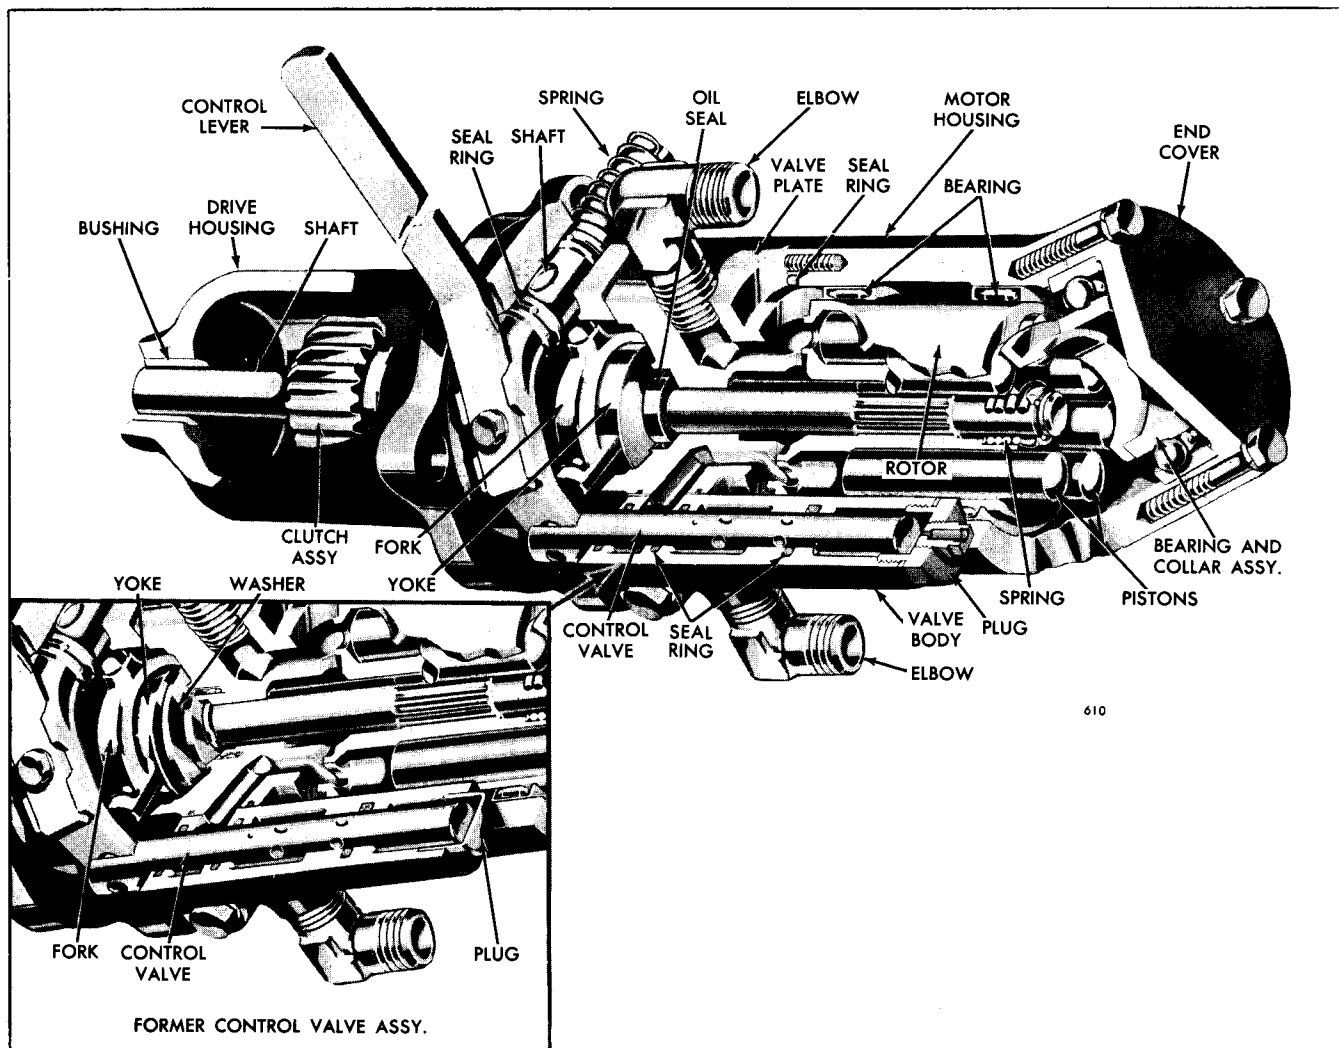

Fig. 4 - Cutaway View of Hydrostarter
With the engine controls set for start (throttle at least half-open), push the control lever (Fig. 4) to
The Hydrostarter (starting) motor is mounted on the flywheel housing in the same manner as a conventional starting motor. This starting motor has an inherently high rate of acceleration; therefore, the engine is cranked faster than is possible with other starting systems. Right and left-hand starters are achieved by assembling the motor housing (Fig. 4) to the valve plate in one of two positions 180° apart and by changing the drive clutch assembly. The drive housing can be adjusted in 12 different positions to accommodate various flywheel housing configurations.
valve plate and motor housing prior to disassembly to ensure their correct reassembly. Refer to Figs. 4 and 6 and proceed as follows:
8. On the Hydrostarter motors equipped with the former control valve assembly, shown in the inset in Fig. 4, remove the drive shaft oil seal washer from the starter shaft.
The rotor bearings (Fig. 4) should not require replacement; however, if they are worn excessively, a new motor housing and bearing assembly must be installed.
NOTE: The washer between the shaft seal and the clutch yoke (see inset in Fig. 4) is used **ONLY** in the early Hydrostarter motors with the former type control valve. If the Hydrostarter motor is overhauled and a new control valve assembly is installed, remove the washer. However, if the control valve assembly is replaced and the motor is not disassembled, the washer may be left in the motor.
Refer to Figs. 4 and 6 and assemble the Hydrostarter motor as follows:
control valve assembly shown in the inset in Fig. 4.
NOTE: On a former control valve body, shown in the inset in Fig. 4, press the cup plug against the shoulder in the control valve body.